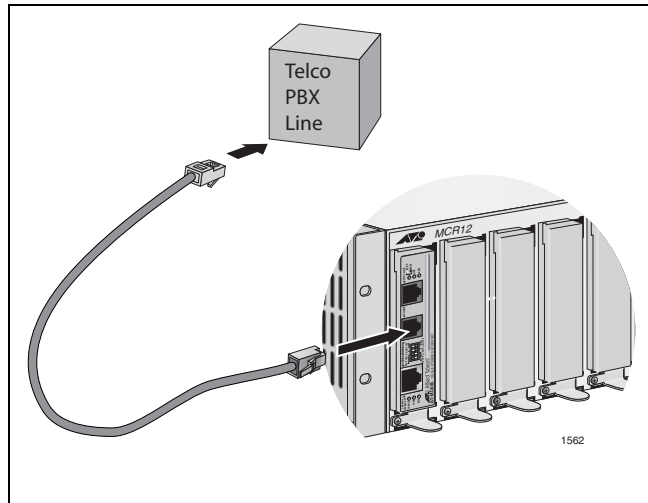

Figure 18. Connecting AT-MC605 Phone Port to PBX Connection
2. Connect a telephone line cable from the Phone port to the building PBX connection as shown in Figure 18.